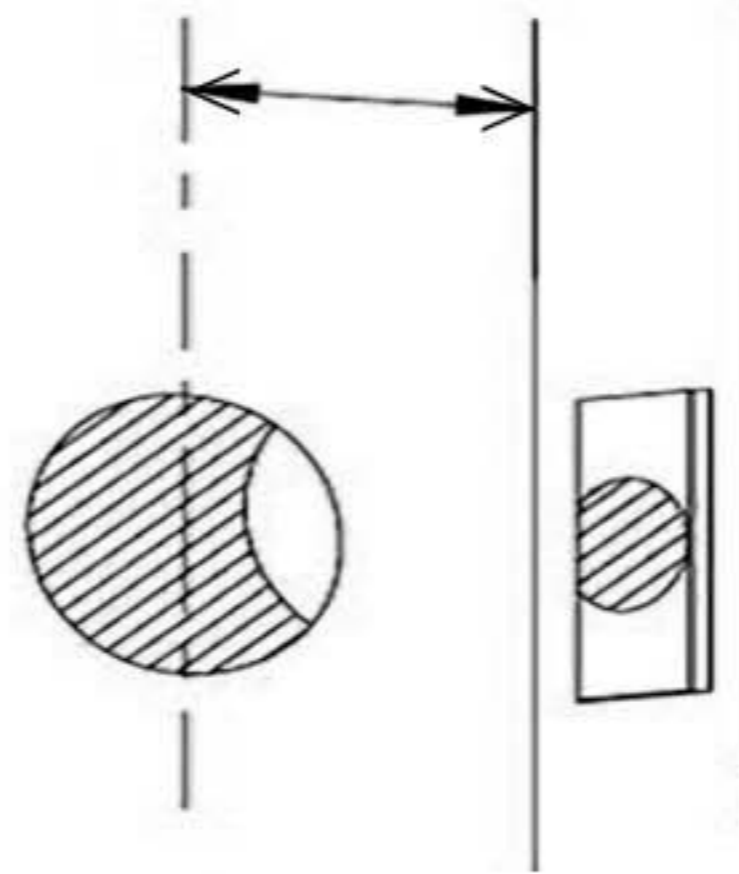

Fig.2
1. Determine 60mm or 70mm backset for your door(Fig.2)